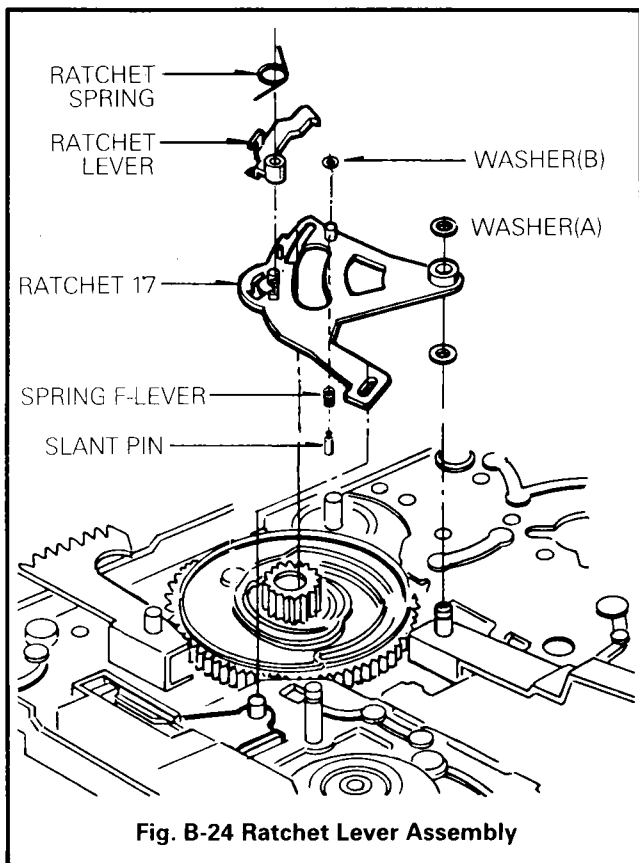

Fig. B-24 Ratchet Lever Assembly
24. Ratchet Lever Assembly (Fig. B-24)